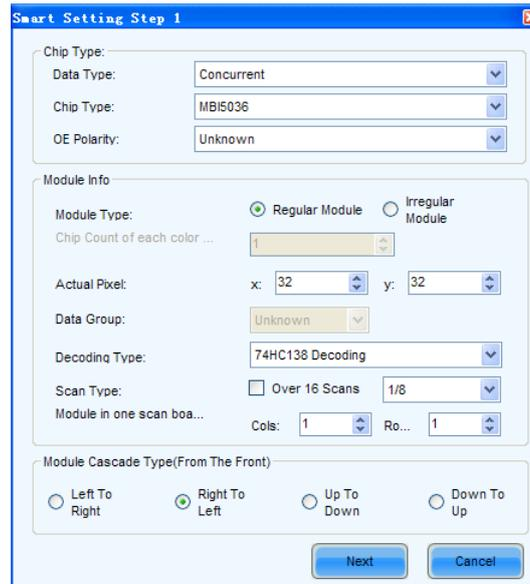

Fig. 7-8 Smart setting step 1
- 3) Select “**Option 1: Smart setting**” and click “**Next**” to activate smart setting wizard. The Smart Setting Step 1 page will appear, as shown in Fig. 7-8,